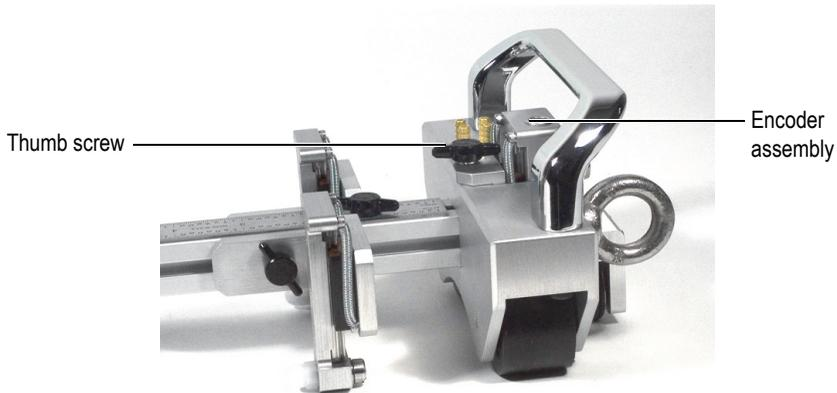

Figure 2-2 Thumb screw for the encoder assembly
- b) Remove the thumb screw that holds the encoder assembly, and then pull this assembly away from the scanner (see Figure 2-2 on page 20).The remaining frame screws are now easy to access.